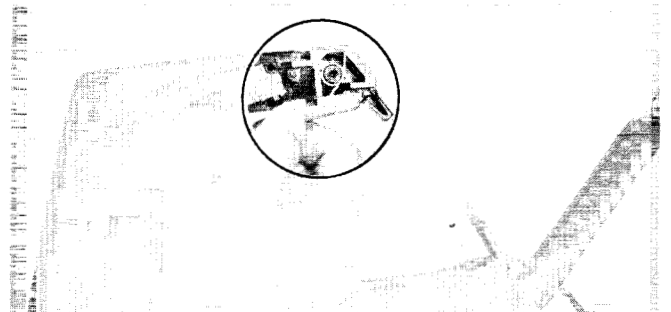

Figure 5.41j
- d. Place the trigger over the long end of the spring. Put the trigger boss into the hole in the case. Carefully hold the trigger in this position and let go of the spring and trigger release (Fig. 5.41j).